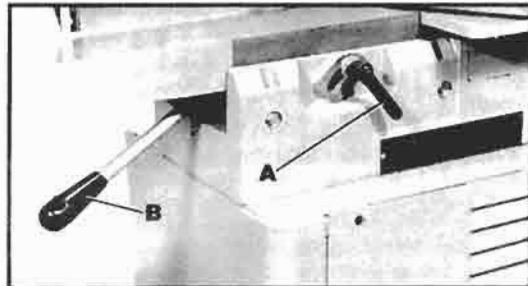
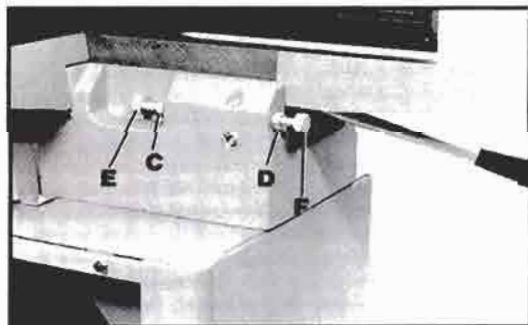

Fig. 27
Fig. 28
For most jointing operations the outfeed table must be exactly level with the knives at their highest point of revolution: to move the outfeed table, loosen lockhandle (A) Fig. 27, and move the table raising and lowering hand lever (B) up or down until the table is level with the knives.
It may be necessary to adjust the positive stops. Loosen the two locknuts (C) and (D) Fig. 28, and the two adjusting screws (E) and (F) when moving the table up or down.
When the table is exactly level with the knives at the highest point of revolution, tighten lockhandle (A) Fig. 27, and turn adjusting screw (E) Fig. 28, until it bottoms; then tighten locknut (C). Screw (F) is also a positive stop for the lower limit of the outfeed table. We suggest that this stop also be tightened when the outfeed table is set level with the knives. This will prevent the outfeed table from accidentally being lowered.